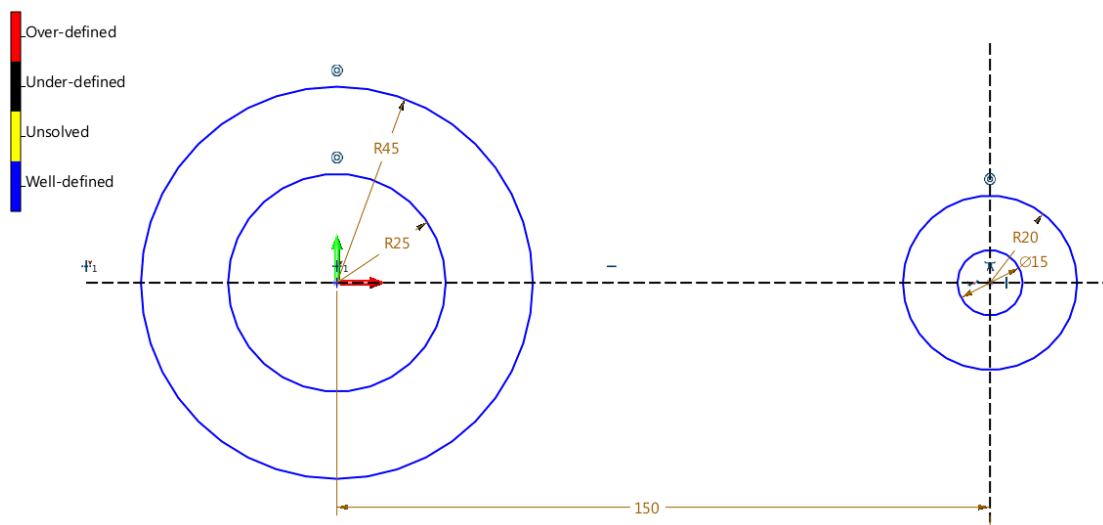

Figure 101 Draw the Base Circles
**STEP 05** Add the constraint for the circle center and intersection point with “Point to Intersection” feature. Turn on “constraint status color”, and then check the sketch. The result is shown in the Figure 101.